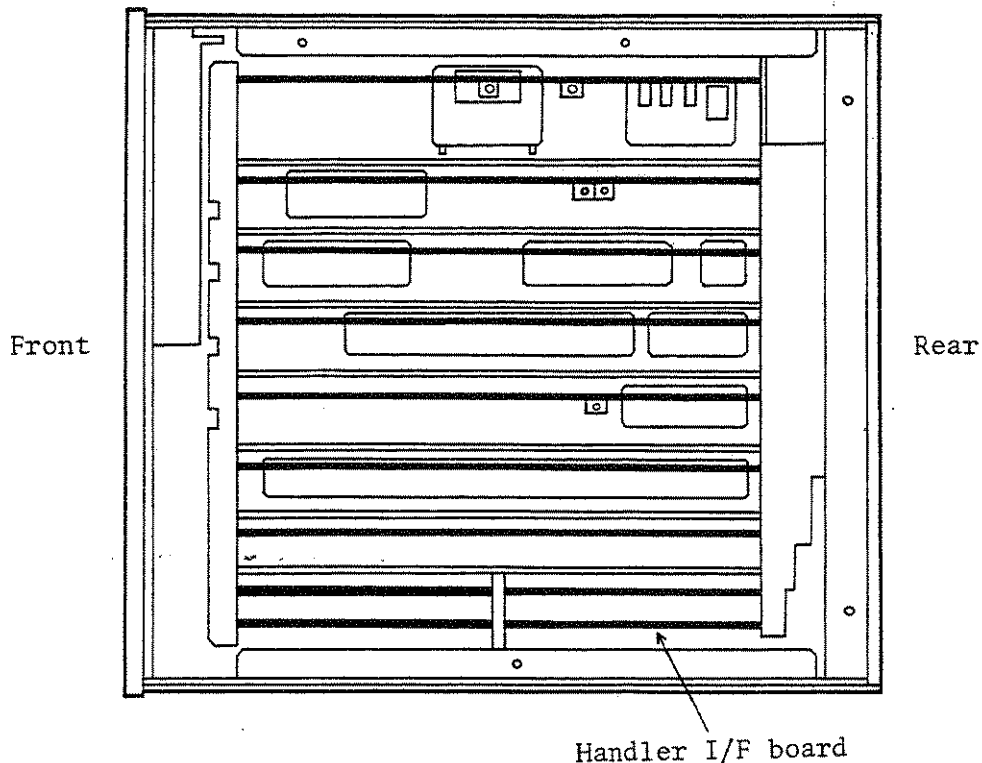
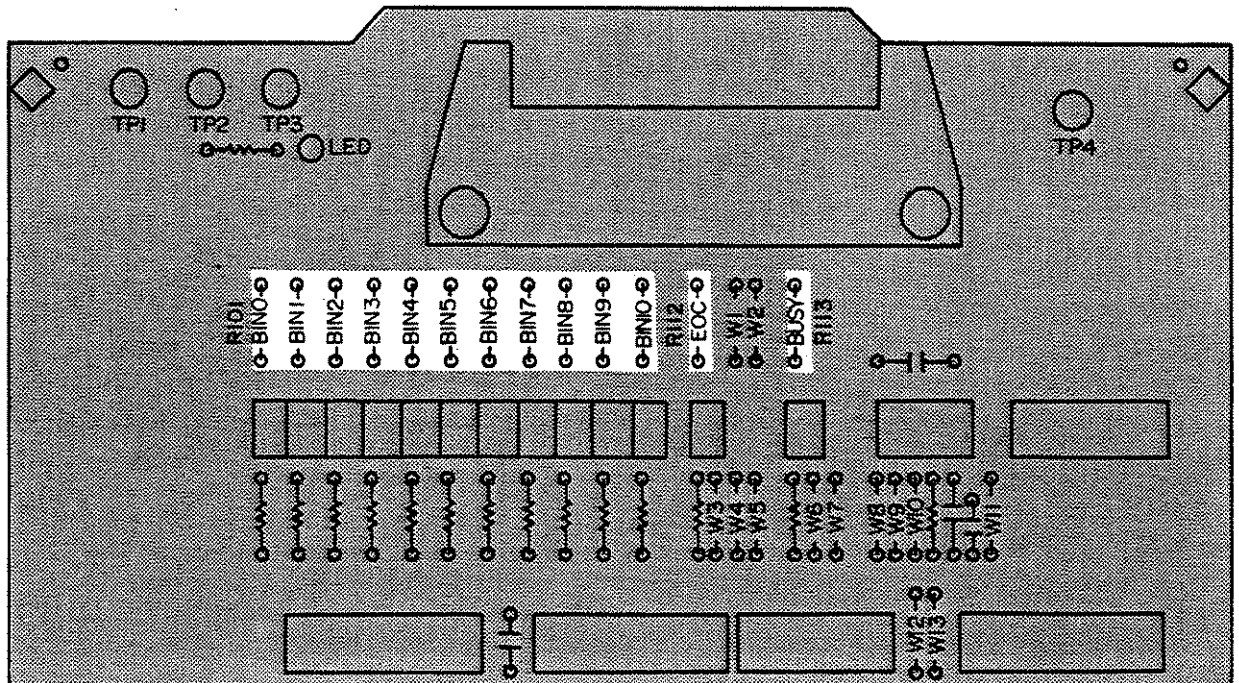
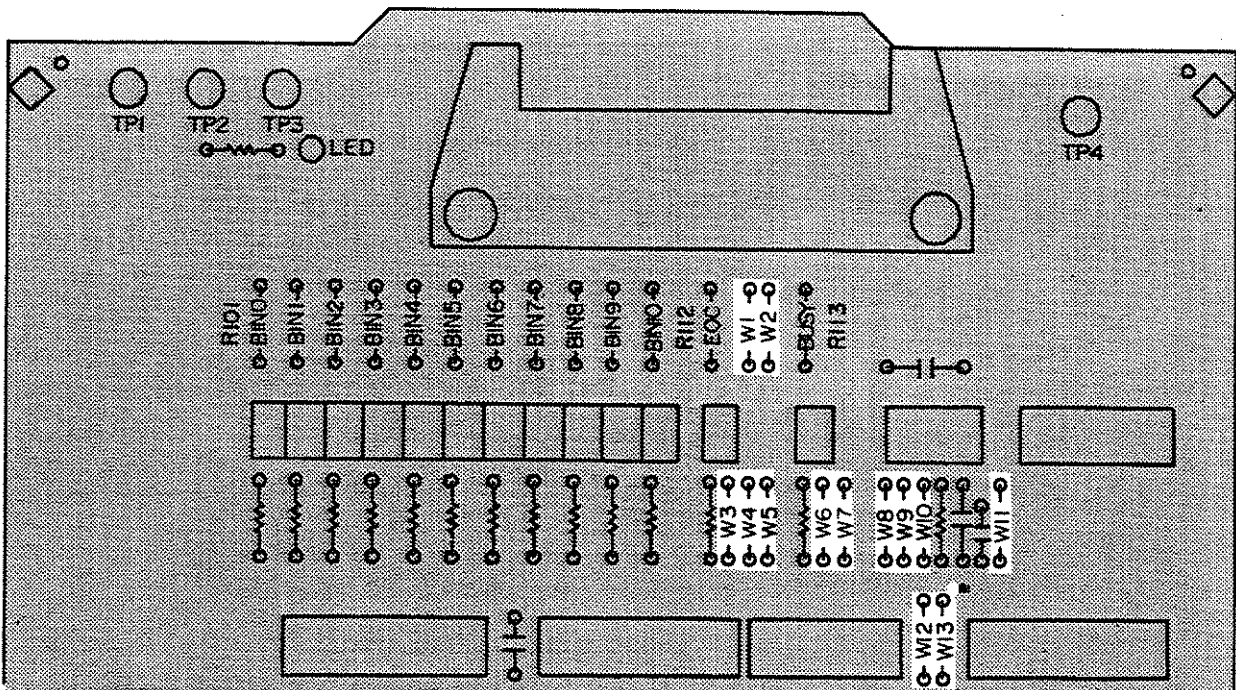

Figure 3-1. Handler Interface Board Location
Figure 3-2. Pull-Up Resistor Locations
Figure 3-3. Configuration Jumper Locations
Figure 3-1 shows the location of the handler interface board in the HP 4284A, Figure 3-2 shows the locations of the pull-up resistors on the handler interface board, and Figure 3-3 shows the locations of the handler interface jumpers.
6. Disconnect the flat cable connected to the handler interface board which has Brown and Orange extractors, as shown in Figure 3-1.
7. If the comparison output signals are TTL levels signals and if these signals are not pulled up by the handler, determine the pull-up resistor value ( 1.78 K $\Omega$  is recommended ) and referring to Figure 3-2 for the locations of the BIN pull-up resistors, install the pull-up resistors.
8. If the control outputs ( EOC, BUSY ) are to be TTL level signals and if these signals are not pulled up by the handler, determine the pull-up resistor value ( 1.78 K $\Omega$  is recommended ) and referring to Figure 3-2 for the locations of R112 ( EOC ) and R113 ( BUSY ), install the pull-up resistors.
10. Use Figure 3-3 to locate the location of the required jumpers and install the jumpers.
12. Use Figure 3-3 to find the location of the required jumpers and install the jumpers.